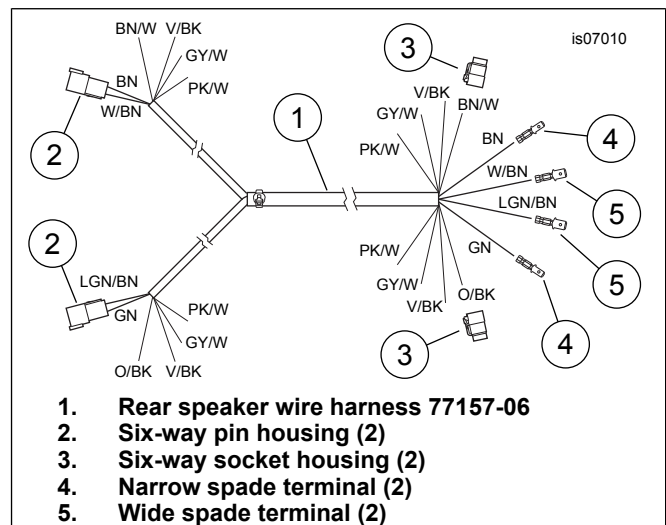
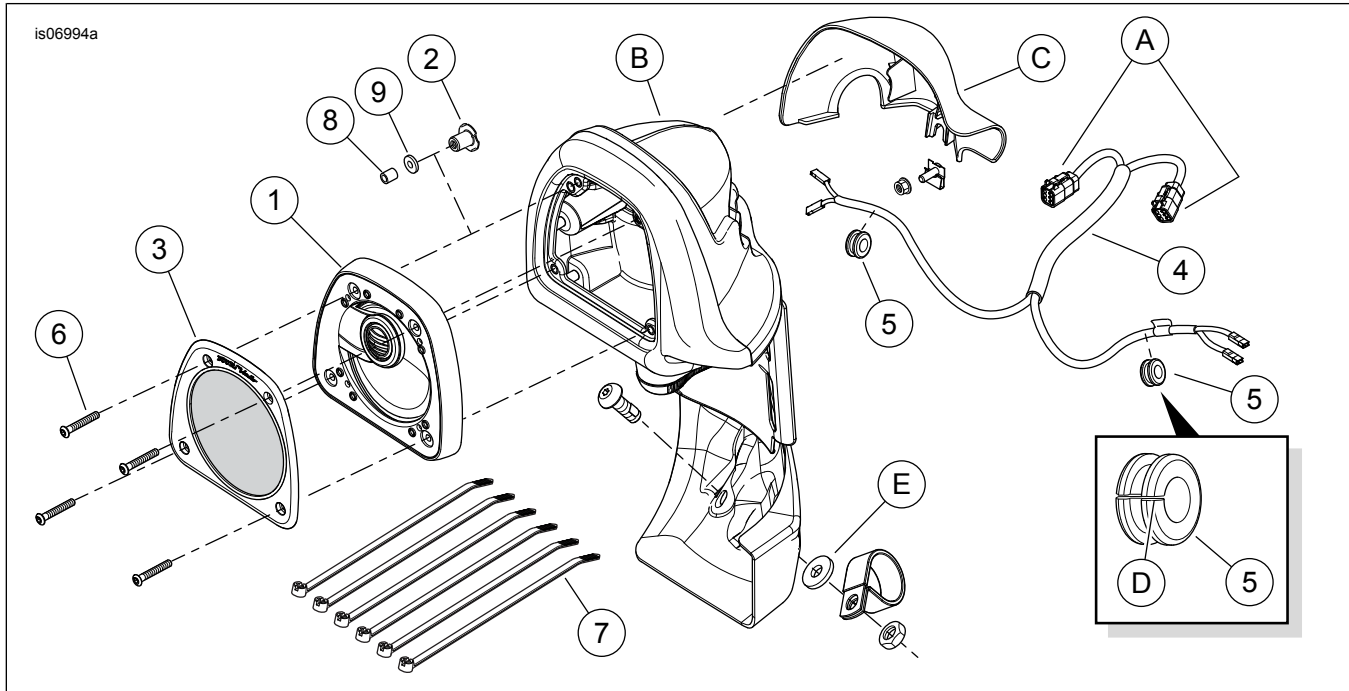

Figure 3. Harness, Lower Fairing Speaker to Rear-Mounted Amplifier
Figure 4. Service Parts, Boom! Audio Lower Fairing Speakers
2. **Models Equipped With Fairing Lowers:** See Figure 4. Remove the lower fairings (B) per service manual instructions. Discard the rubber washers (E) at the bottom of the fairing.
6. On the back side of the glove box, measure about 25 mm (1.0 in) over (8) and 12 mm (0.5 in) up (9) from the lower fairing cap mating flange (shaded area), and drill a 9.5 mm (3/8 in) hole (10) in the glove box inboard side wall.
8. See Figure 4. Get the lower fairing wire harness (4) from the kit.
9. Get either the left- or right-side lower fairing. See Figure 4, inset. Slit (D) one of the grommets (5) from outer edge to center hole, and install over the correct (left- or right-side) wires of the lower fairing wire harness (4) leg, about 100 mm (4.0 in) past the start of the conduit on the end with two female terminals.
2. **Mating the fairing lower speaker connectors:** See Figure 4. Match the wire colors in cavities 5 and 6 of the six-way socket housings (A) on the lower fairing wire harness (4) with those in the six-way pin housings [41A] and [42A] on the radio harness or non-Ultra overlay harness. Plug the right- and left-side speaker socket housings into the correct pin housings. **With radio harness and NO front amplifier:** With radio harness AND front amplifier: Insert the four terminated wires into amplifier harness connector [149B]. Refer to the Boom! Audio Amplifier Kit instructions.
See Figure 3. A rear speaker wire harness (Item 1, Part No. 77157-06), two 4.8 mm (0.19 in) spade terminals (Item 4, Part No. 72438-06), two 6.4 mm (0.25 in) spade terminals (Item 5, Part No. 72446-06) and six cable straps (Part No. 10006) will be needed.
8. Connect the pin housings (Figure 3, Item 2) of the rear speaker wire harness to the socket housings (Figure 4, Item A) of the lower fairing speaker wire harness. Go to "LOWER FAIRING HARNESS CONNECTION" at the front of these instructions for wire color reference, then proceed to steps 3 and 4 of that section.